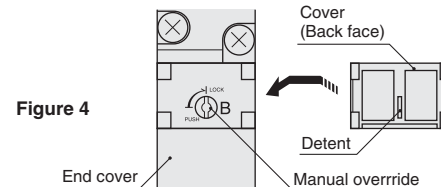

Figure 4
**Caution:** The cover has directionality (F15 and F18 series only). When attaching, always align the detent on the back of the cover with the manual override button's slit, as shown in Fig.4.